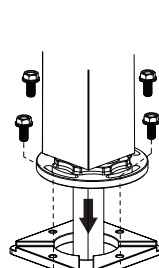

Figure 27
7. Push the connected flexible hoses under the subfloor, then connect the tub filler body and the floor flange together using the screws provided as shown in Figure 27.